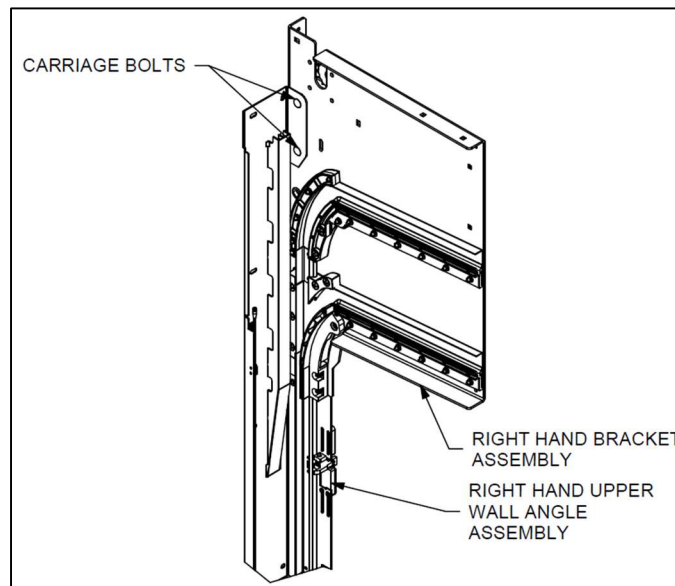

Figure 7 – RIGHT-HAND BRACKET ASSEMBLY MOUNTED TO UPPER WALL ANGLE ASSEMBLY
15. Locate the right-hand bracket assembly, see figure below. Attach the bracket assembly to the upper wall angle assembly using the 3/8 x 1" [9 mm x 25 mm] carriage bolts, washers, and nuts provided in the hardware box. See **Figure 7**.